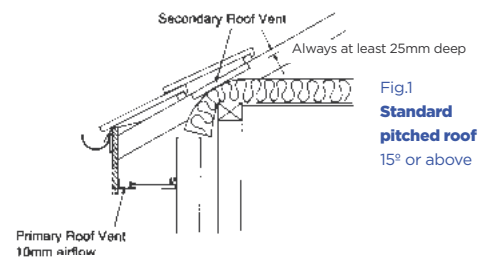

Fig.1
- With a standard pitched roof where the pitch of the roof is 15 degrees or greater and the roof space is an attic or loft a free airflow is required which is equivalent to a continuous 10mm opening (10,000 mm² per metre run). See fig.1
- With a standard pitched roof where the pitch of the roof is 15 degrees or greater and the roof space is an attic or loft a ventilation channel at least 25mm deep must be maintained between the roof insulation and the underside of the roof covering. See fig.1